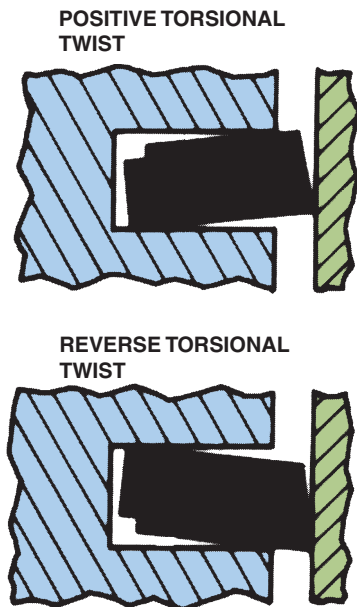

FIGURE 29-22 Torsional twist rings provide better compression sealing and oil control than regular taper rings.
- **Reverse twist ring** is produced by chamfering the ring's *lower inner* corner. This seals the lower outer section of the ring and piston ring groove, thus improving oil control. Reverse twist rings require a greater taper face or barrel face to maintain the desired ring face-to-cylinder wall contact. ● **SEE FIGURE 29-22.**